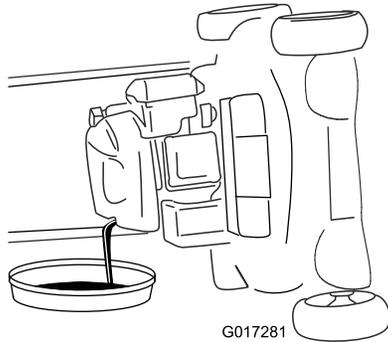

Figure 30
- Tip the machine onto its side (so that the air filter is up) to drain the used oil from the oil-fill tube (Figure 30).